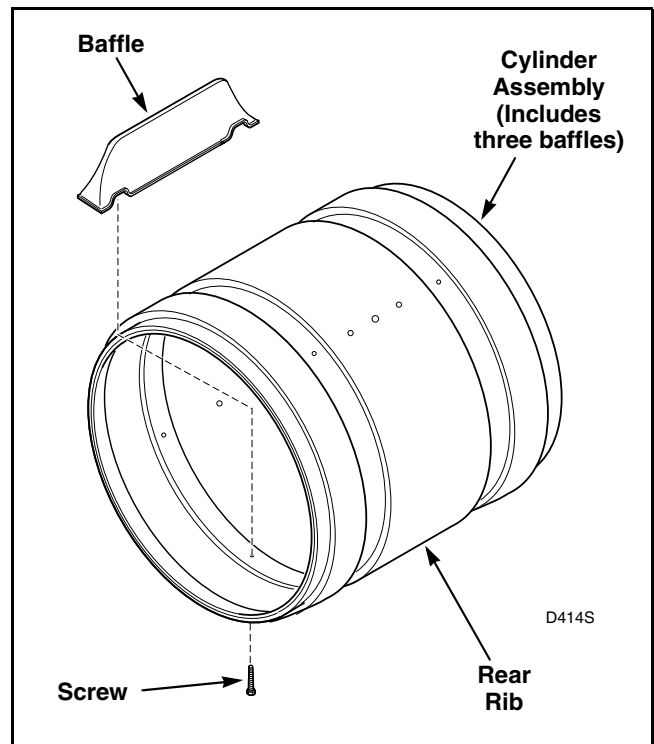

Figure 52
NOTE: When reinstalling belt, be sure belt is properly installed on motor and idler pulleys, and is on the correct side of the idler lever. Refer to *Figure 43*. Belt must be positioned around center section of cylinder approximately three inches ahead of rear rib on cylinder. Refer to *Figure 52*. After installing belt, manually rotate cylinder counterclockwise to check that belt is properly aligned.
NOTE: When reinstalling belt, be sure belt is properly installed on motor and idler pulleys, and is on the correct side of the idler lever. Refer to *Figure 43*. Belt must be positioned around center section of cylinder approximately three inches ahead of rear rib on cylinder, with the ribbed surface of the belt against the cylinder. Refer to *Figure 52*. After installing belt, manually rotate cylinder counterclockwise to check that belt is properly aligned.
- i. Baffles – Remove screws holding baffles to cylinder. Refer to *Figure 52*.
NOTE: When reinstalling belt, be sure belt is properly installed on motor and idler pulleys and is on the correct side of the idler pulleys. Refer to *Figure 43*. Belt must be positioned around center section of cylinder approximately three inches ahead of rear rib on cylinder with the ribbed surface of the belt against cylinder. Refer to *Figure 52*. After installing belt, manually rotate cylinder counterclockwise to check that belt is properly aligned.
NOTE: When reinstalling belt, be sure belt is properly installed on motor and idler pulleys and is on the correct side of the idler pulleys. Refer to *Figure 43*. Belt must be positioned around cylinder approximately three inches ahead of rear rib on cylinder with the ribbed surface of the belt against the cylinder. Refer to *Figure 52*. After installing belt, manually rotate cylinder counterclockwise to check that belt is properly aligned.